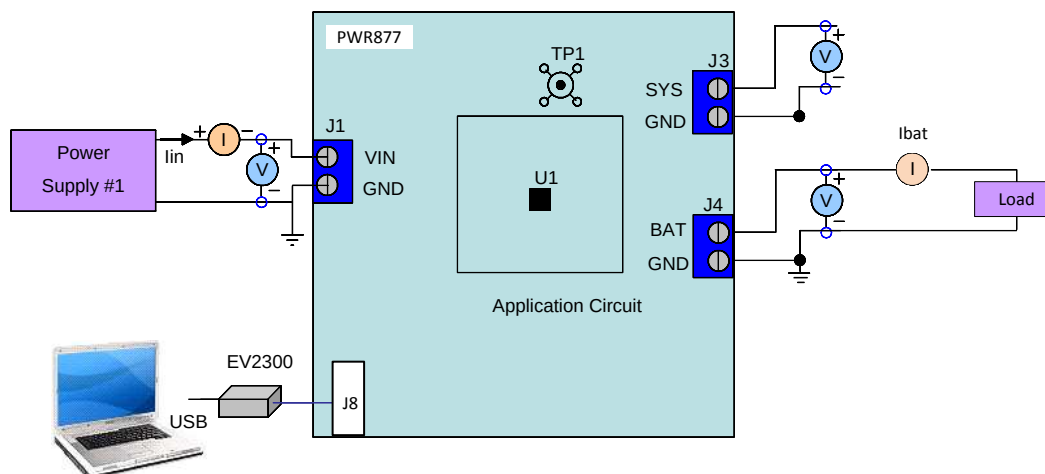

Figure 1. Original Test Setup for BQ25601EVM and BQ25601DEVM
4. Turn on Load #1, set to constant voltage mode, and output to 2.5 V. Turn off (disable) the load. Apply the load in series with a current meter (multimeter), ground side to J4 (BAT and GND) as shown in Figure 1.